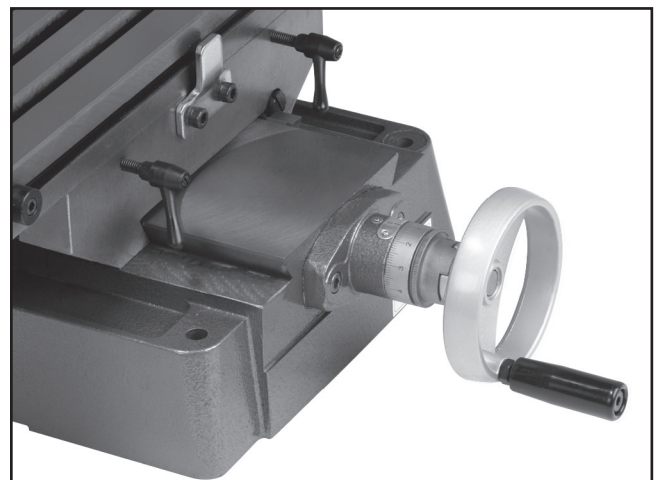

Figure 8. Table handwheels installed.
4. Slide the handwheels onto the handwheel shafts as shown in **Figure 8**, and tighten the handwheel setscrews.